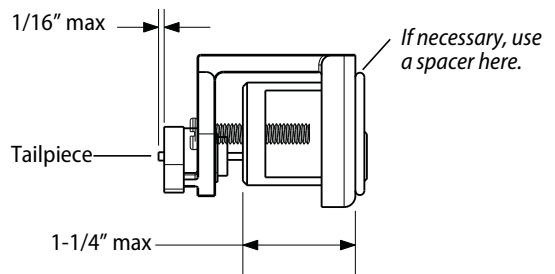

Figure 2 Maximum dimensions for cylinder assembly
- 3 Check assembled dimensions and make adjustments as needed. See Figure 2.